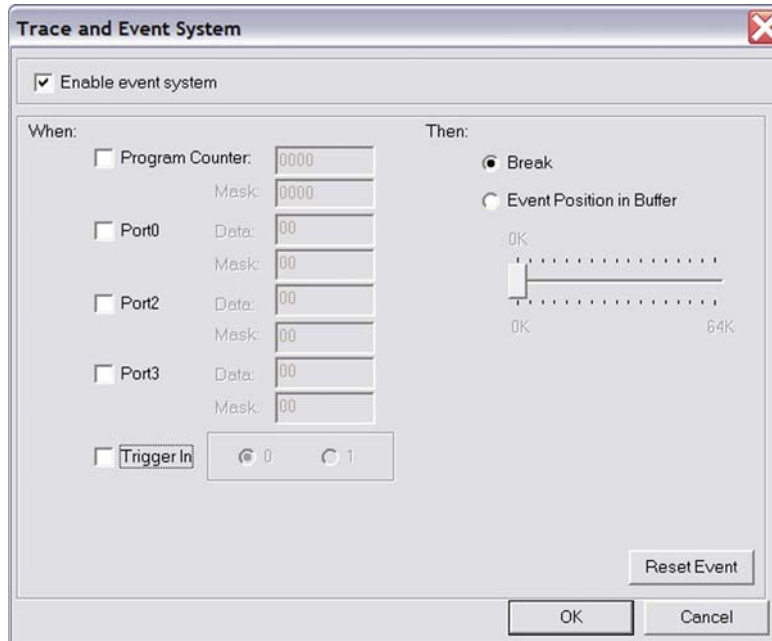

Figure 10. Trace and Event System Window
1. Select **Tools → Trace and Event System**. The **Trace and Event System** window appears, see Figure 10.
You can use the Trace and Event System to capture trace data before and after an event. Set up the events as described in Using an Event to Stop Execution on page 14. In the **Then:** section (see Figure 10), check **Event Position in Buffer** radio button instead of